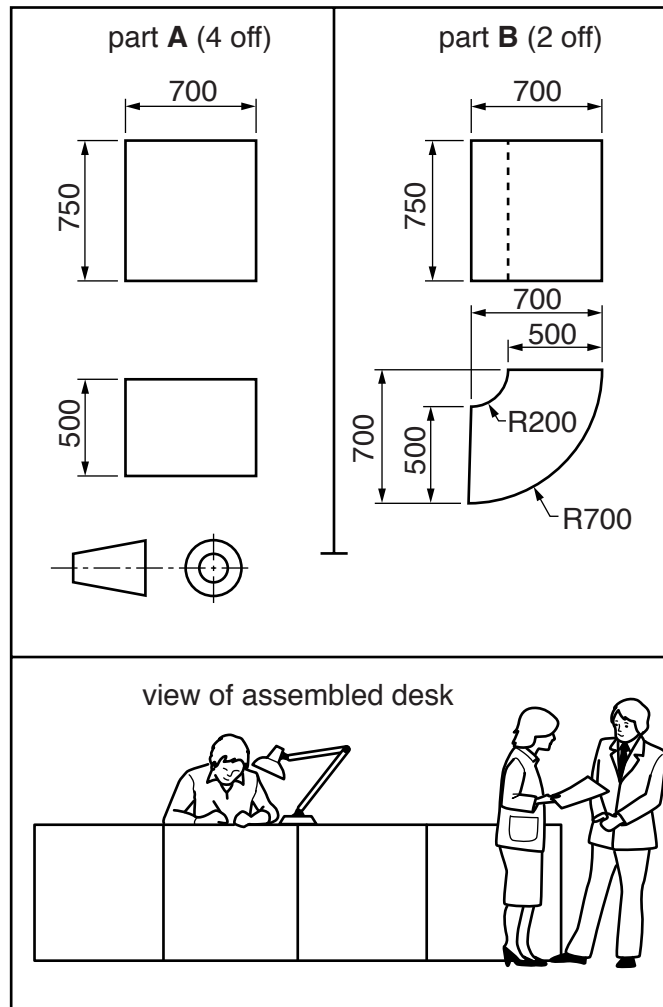

Fig. 2
- 2 Fig. 2 gives details about a hotel reception desk. The desk is made out of six pieces. A 1:10 scale model of the desk, made from card, is to be produced in a school workshop.